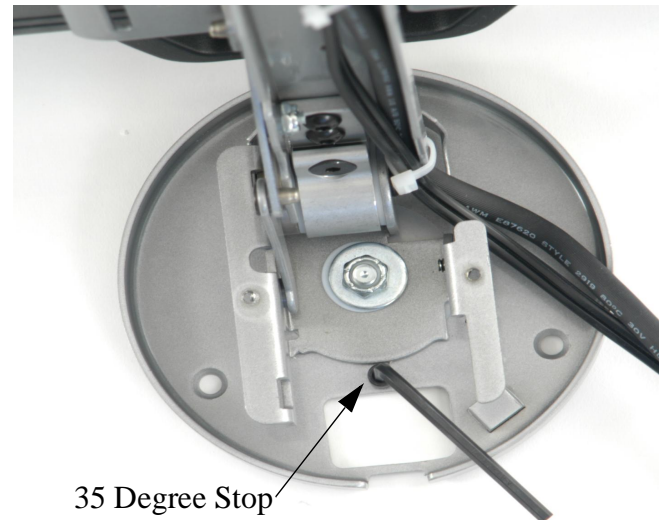

Figure 11. Remove 35 Degree Stop
1. Using an Allen wrench (provided), remove the 35 degree stop (see Figure 11).